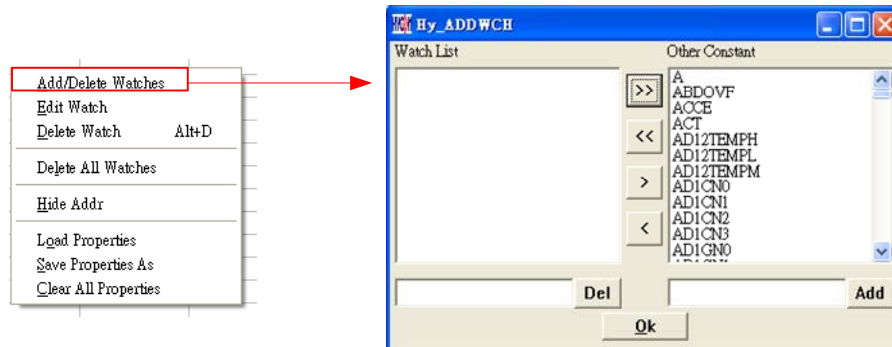

Figure 33
- Monitor EQU defined Register or RAM, click right key of the mouse and select the register or RAM to be monitored, as shown in Figure 33.